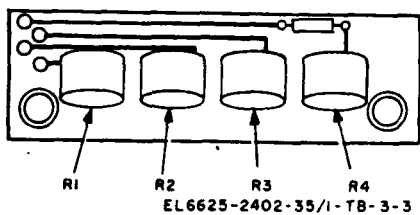

Figure 3-3. Component assembly A1.
(1) Repeat performance check steps a(2) and (3). Adjust UUT START LF ADJ R1 (fig. 3-3) for multimeter indication of 3.0 vdc.
(2) Press UUT FUNCTION MARKER SWEEP pushbutton. Adjust UUT MS START LF ADJ R2 (fig. 3-3) for multimeter indication of 3.0 vdc.
(3) Repeat performance check step a(7). Adjust UUT MS STOP LF ADJ R3 (fig. 3-3) for multimeter indication of 3.0 vdc.
(4) Press UUT FUNCTION START STOP pushbutton. Adjust UUT STOP LF ADJ R4 (fig. 3-3) for multimeter indication of 3.0 vdc.